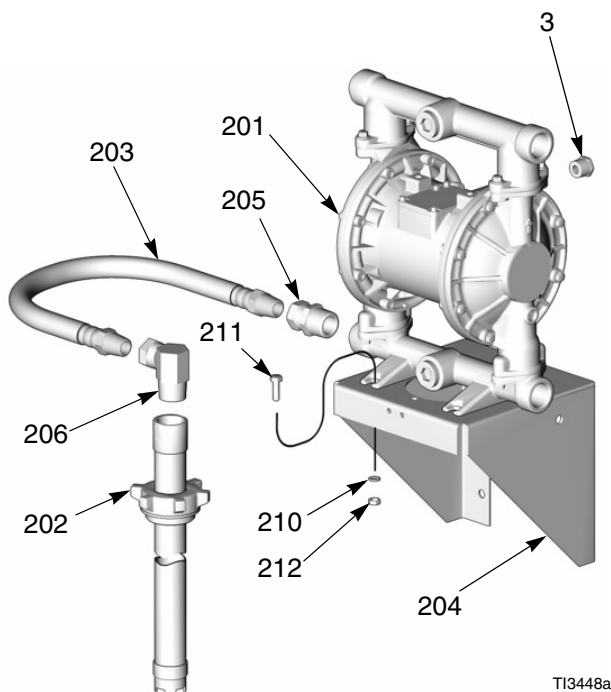

FIG. 2. Husky 1040 Wall Mount
2. Position wall bracket (204) no more than 5 ft (1.52 m) above floor. Check that bracket is level. Attach to wall, using screws long enough to keep bracket from vibrating. See FIG. 2.
3. Connect swivel union (205) to pump inlet.
4. Install bushing (3) in pump air inlet.
5. Install pump (201) on bracket (204) securely, using screws (211), washers (210), and nuts (212).
6. Connect elbow (206) to top of riser tube kit (202).
7. Connect suction hose (203) to elbow (206) and inlet swivel (205).